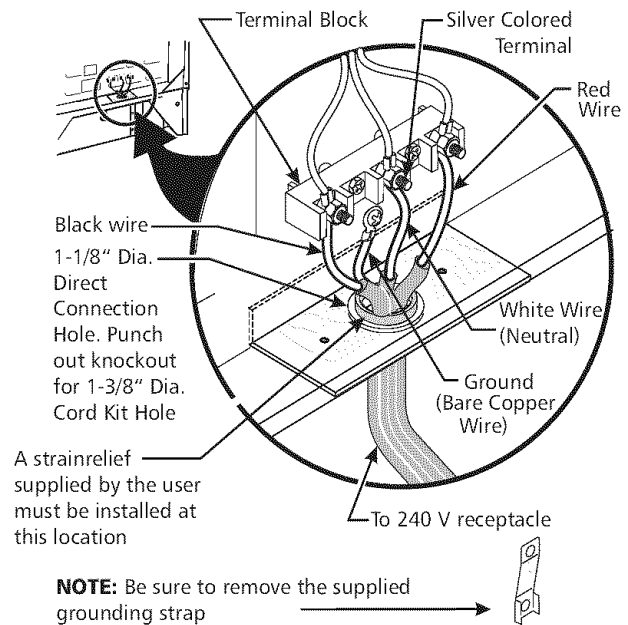

Figure 4
4. Connect the ground wire (green) of the copper power supply cord to the frame of the appliance with the ground screw, using the hole in the frame where the ground strap was removed (see Figure 4).
6. Replace the 3 nuts on the terminal block (see Figure 4).
If the appliance is connected directly to the circuit breaker, fuse box or junction box, use flexible, armored or nonmetallic sheathed copper cable (with grounding wire). Supply a U.L. listed strain-relief at each end of the cable. At the appliance end, the cable goes through the Direct Connection Hole (see Figure 4) on the Cord Mounting Plate. Wire sizes (**copper wire only**) and connections must conform to the rating of the appliance.